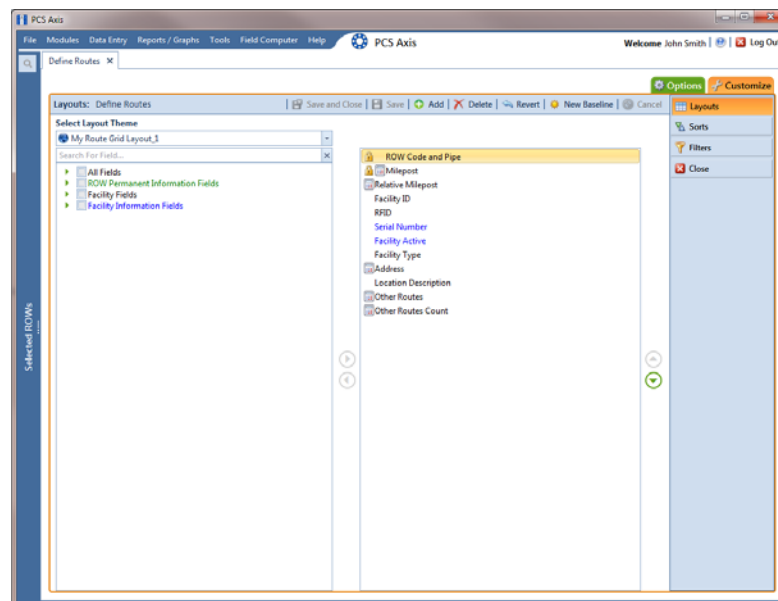

Figure 8-44. Layouts
- 7 Click  **Save** to save changes. The layout theme includes all fields listed in the right pane (Figure 8-44, page 398).